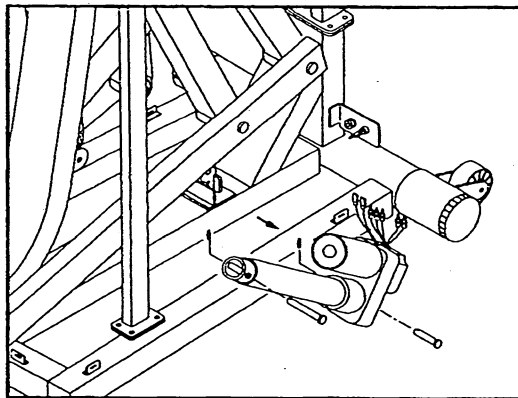

Fig.9-2
3.Remove the ELEVATOR MOTOR by taking apart the bolts (see fig.9-2)